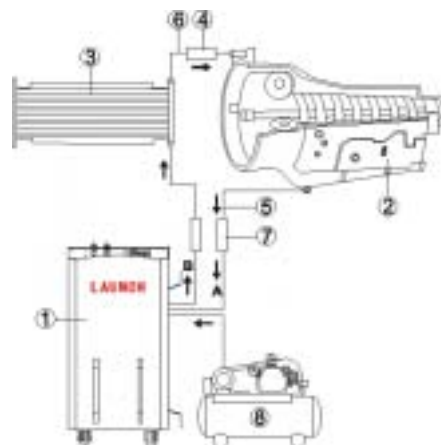

Fig.5
- 2) Remove the hose between the auto transmission and radiator. See Fig.5.